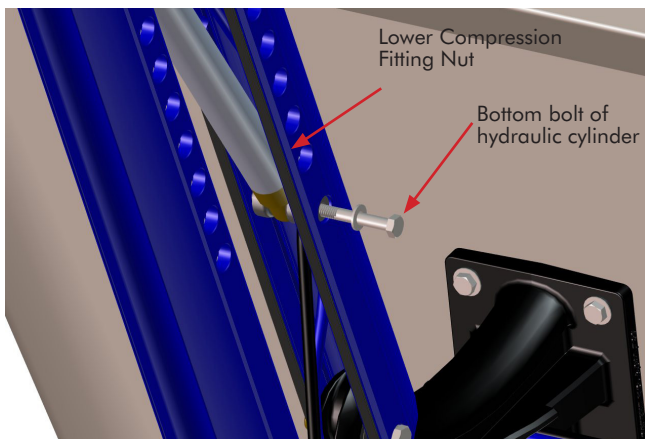

Figure 3
STEP 3 Remove the **Bottom Bolt** of the **Hydraulic Cylinder** with a 1/2" Socket & Wrench to gain access to the **Lower Compression Fitting Nut**. **FIG 3**